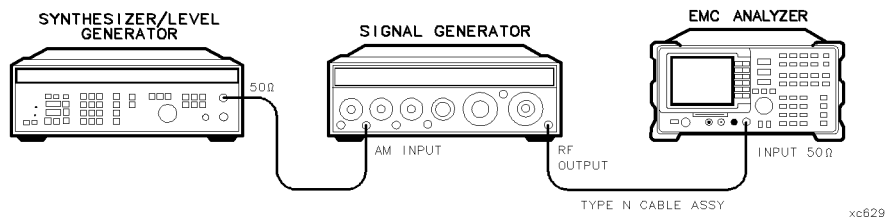

Figure 2-72.
4. Connect the equipment as shown in Figure 2-72.